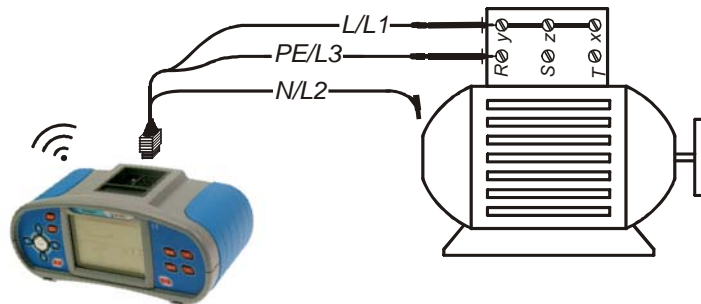

Figure 5.12: Universal test cable application
- **Connect** test leads to the tested object (see figure 5.12).